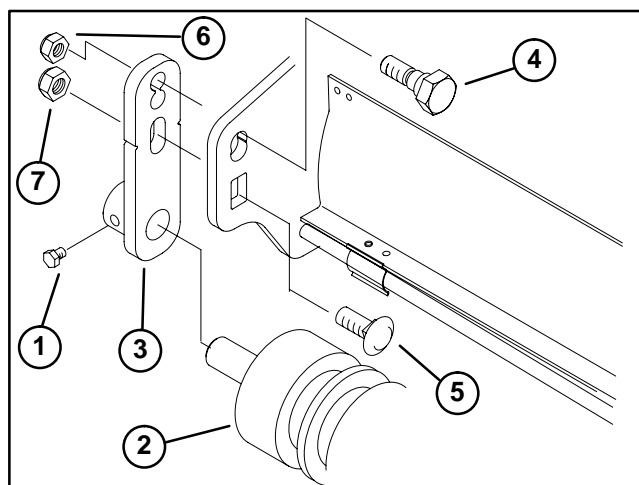

Figure 27
4. Remove cap screws securing the roller shafts to each front bracket (Fig. 27).
**Note:** The right front bracket is secured to the frame with an eccentric bolt and carriage screw, while the left front bracket is secured with a shoulder bolt and carriage screw (Fig. 27).
5. On either end of the roller, remove eccentric bolt (shoulder bolt), carriage screw, and lock nuts securing the front bracket to the frame (Fig. 27).
6. Remove the front brackets and roller from the cutting unit. Remove the front brackets from the roller shaft (Fig. 27).
2. If both front brackets were removed, position bracket as follows (Fig. 27):
3. Place roller shaft into the front bracket. Slide second front bracket on the other end of roller. Secure bracket as in step 2. (Fig. 27).
4. Apply Loctite 242 or equivalent to the cap screw threads. Center roller in the front brackets and secure into place with the cap screws (Fig. 27).